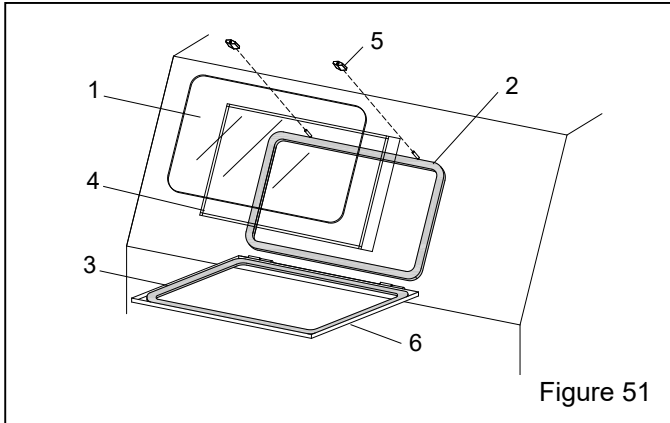

Figure 51
10.4 View-Window Assembly – Figure 51